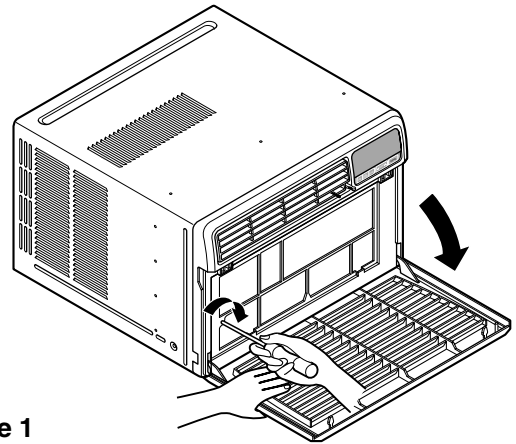

Figure 1
2. Remove the screw which fastens the front grille. (See Figure 1)